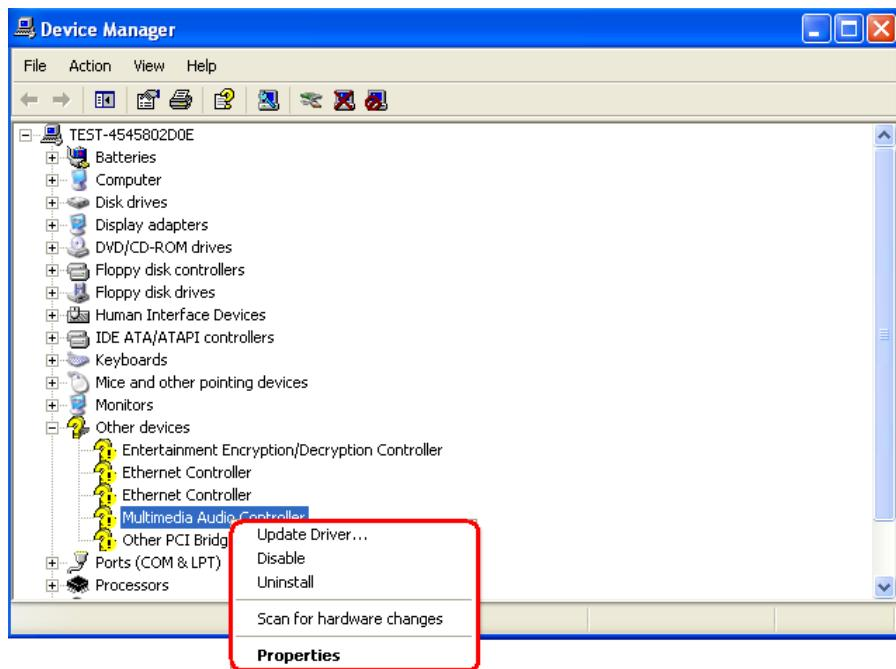

Figure 7-17: Update Audio Driver Selection
Step 30: The small window in **Figure 7-17** appears.
Step 31: Select the **UPDATE DRIVER** option in the small window shown in **Figure 7-17**.